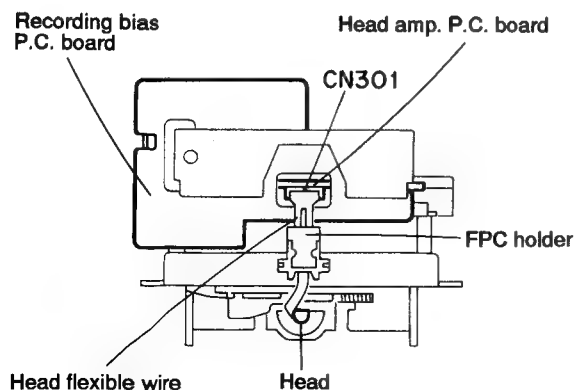

Fig. 5-13
### ■ Removing the head amp. P.C. board (See Figs. 5-13 and 5-14)
2. After removing the FPC holder, disconnect the head flexible wire from the connector CN301 on head amp. P.C. board (See Fig. 5-13).